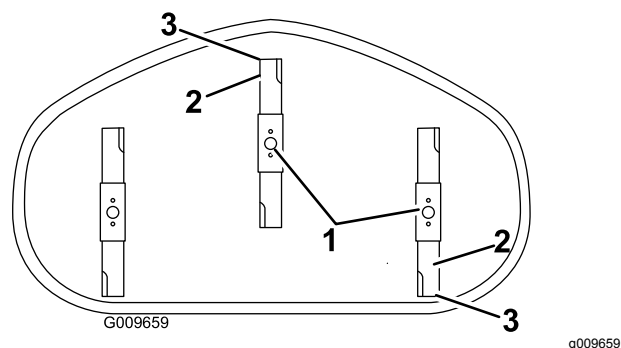

Figure 58
4. Carefully rotate the blades so they are facing front to rear (Figure 58).
5. Measure from the tip of the front blade to the flat surface and the tip of the rear blade to the flat surface (Figure 58). If the front blade tip is not 1/16 to 5/16 inch (1.6 to 7.9 mm) lower than the rear blade tip, adjust the front locknut.
8. After adjustment, check the front-to-rear slope again. Continue adjusting the nut until the front blade tip is 1/16 to 5/16 inch (1.6 to 7.9 mm) lower than the rear blade tip (Figure 58).